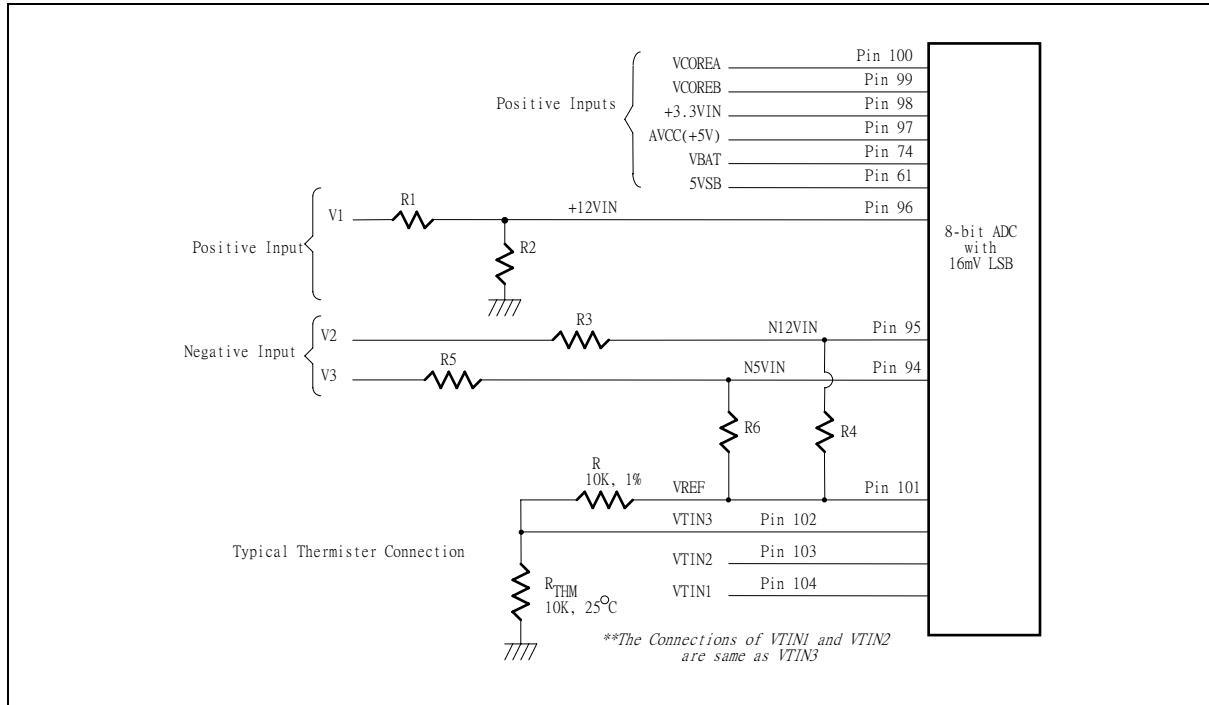

Figure. 8.2
The maximum input voltage of the analog pin is 4.096V because the 8-bit ADC has a 16mV LSB. Really, the application of the PC monitoring would most often be connected to power suppliers. The CPU V-core voltage, +3.3V, battery and 5VSB voltage can directly connected to these analog inputs. The +12V, -12V and -5V voltage inputs should be reduced a factor with external resistors so as to obtain the input range. As Figure 8.2 shows.
The negative voltage should be connected two series resistors and a positive voltage VREF (is equal to 3.6V) . In the Figure 8.2, the voltage V2 and V3 are two negative voltage which they are -12V and -5V respectively. The voltage V2 is connected to two serial resistors then is connected to another terminal VREF which is positive voltage. So as that the voltage node N12VIN can be obtain a posedge voltage if the scales of the two serial resistors are carefully selected. It is recommended from Winbond that the scale of two serial resistors are $R3=232K\Omega$ and $R4=56K\Omega$. The input voltage of node N12VIN can be calculated by following equation.
The W83627HF can connect three thermistors to measure three different envirment temperature. The specification of thermistor should be considered to (1) β value is 3435K, (2) resistor value is 10K ohms at 25°C. In the Figure 8.2, the themistor is connected by a serial resistor with 10K Ohms, then connect to VREF (Pin 101) .